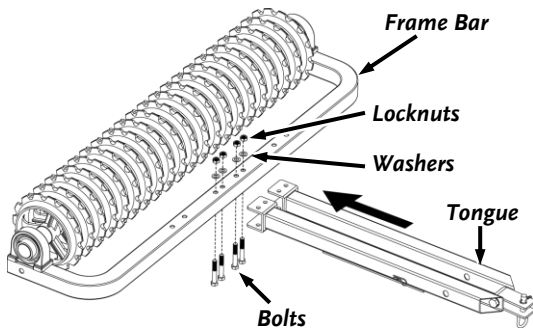

Figure 3
1. Attach the Tongue to the Frame Bar using four M14 Bolts, Washers, and Locknuts (**Figure 3**). Tighten the Hardware using a 21mm Wrench on the Bolts and a 22mm Wrench on the Locknuts.